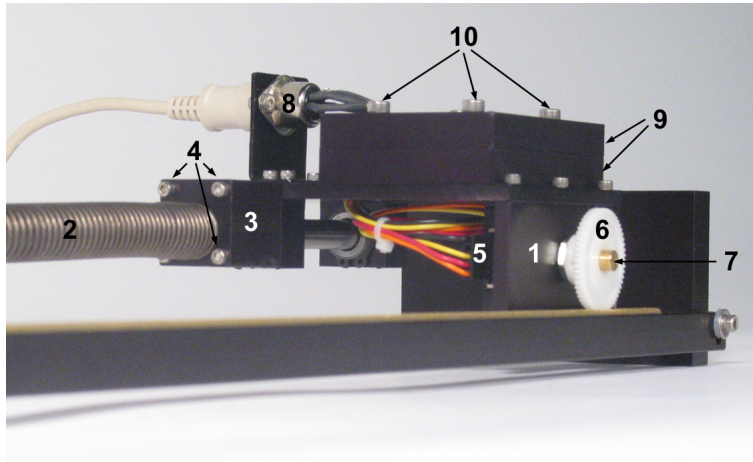
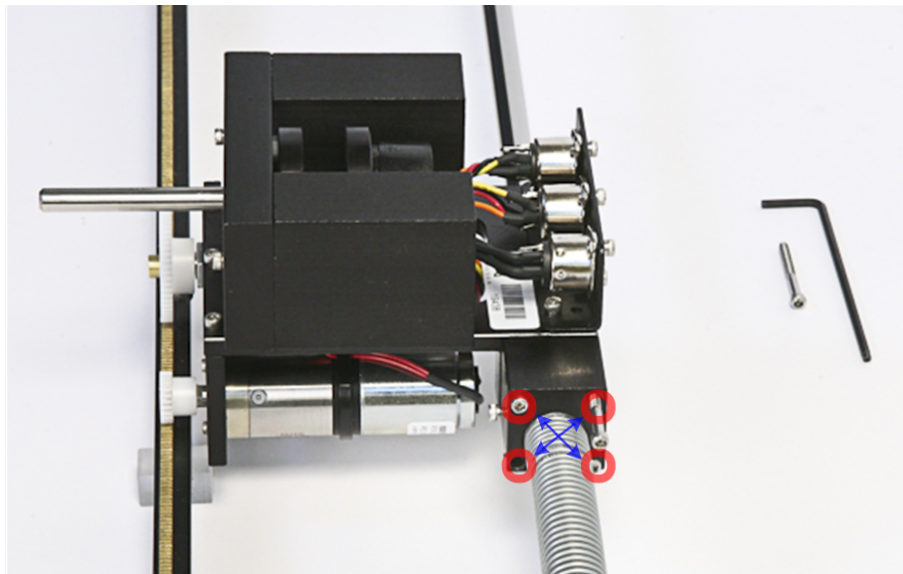
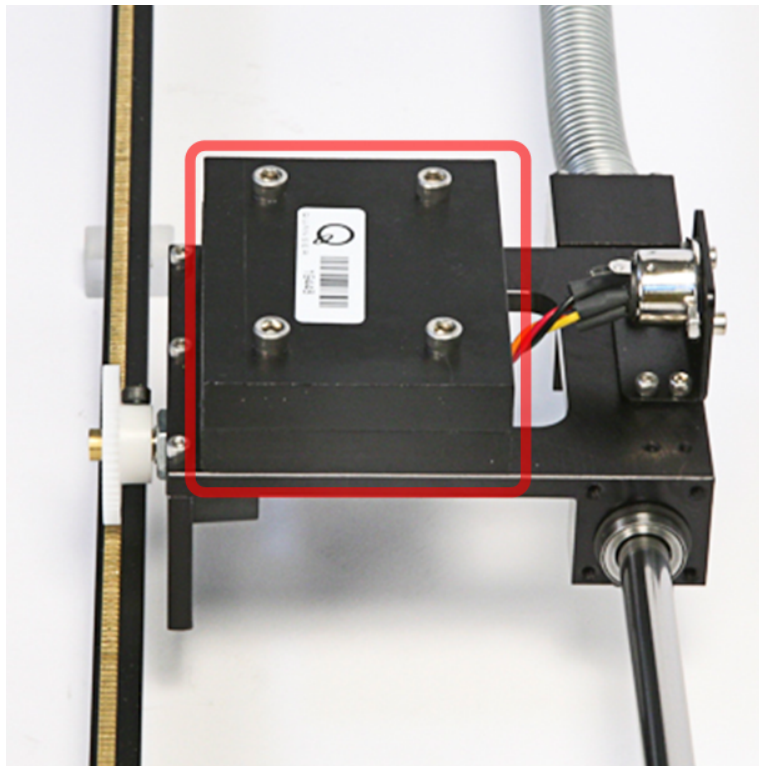

Figure 2.1: Quanser LFJC-E components
Figure 4.3: Attach the linear spring square fitting
Figure 4.4: Mount the additional weights
The LFJC-E components listed in Table 2.1 below are labeled in Figure 2.1.
The LFJC-E has an optical encoder which is used to measure the cart position, represented in Figure 2.1 by components # 5. The encoder measuring the LFJC-E cart linear position does so through a rack-pinion system. The
4. Attach the linear spring square fitting (component #3 in Figure 2.1) to your IP02 cart using the four set screws provided, as shown in Figure 4.3. To do so, fasten the set screws (component #4 in Figure 2.1) diagonally while moving the cart along the track. If the movement of the IP02 and LFJC assembly becomes stiff, loosen the screws until the movement is uncompromised.
6. Mount the two additional weights (components #9 in Figure 2.1) on top of your LFJC-E system, if not already done. The additional weights are shown in Figure 4.4. To that effect, fasten the set screws (component #10 in Figure 2.1).